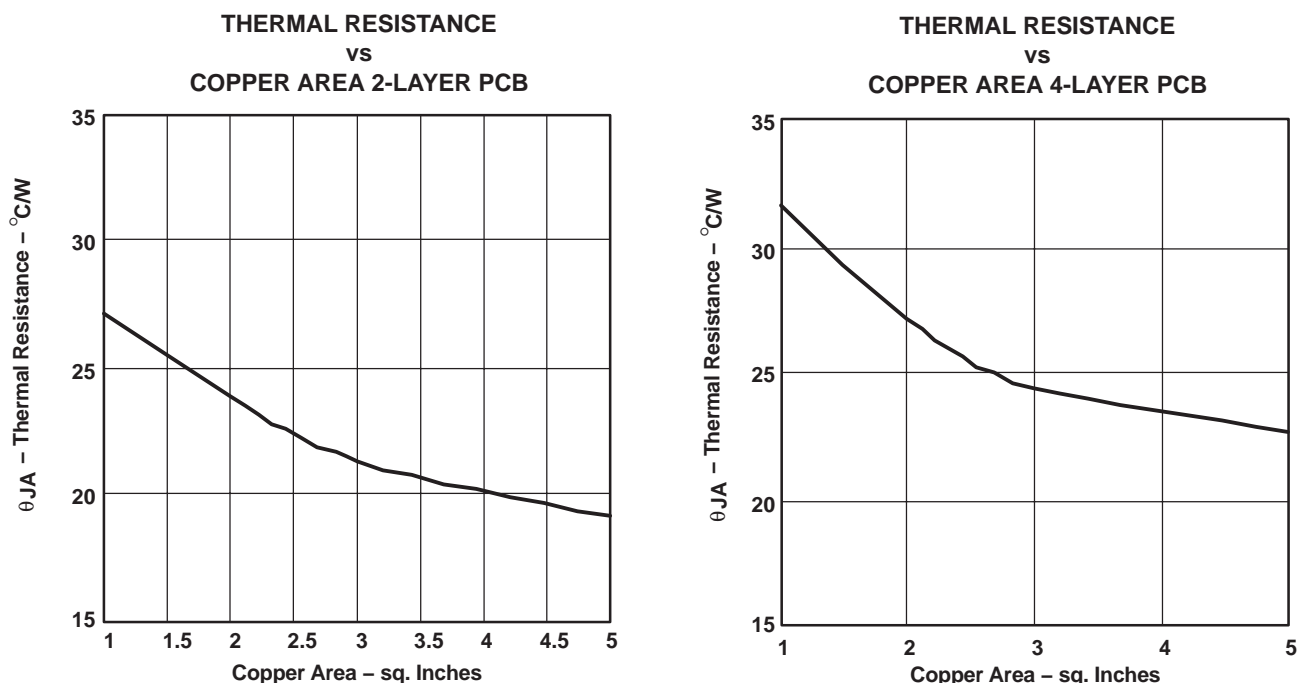
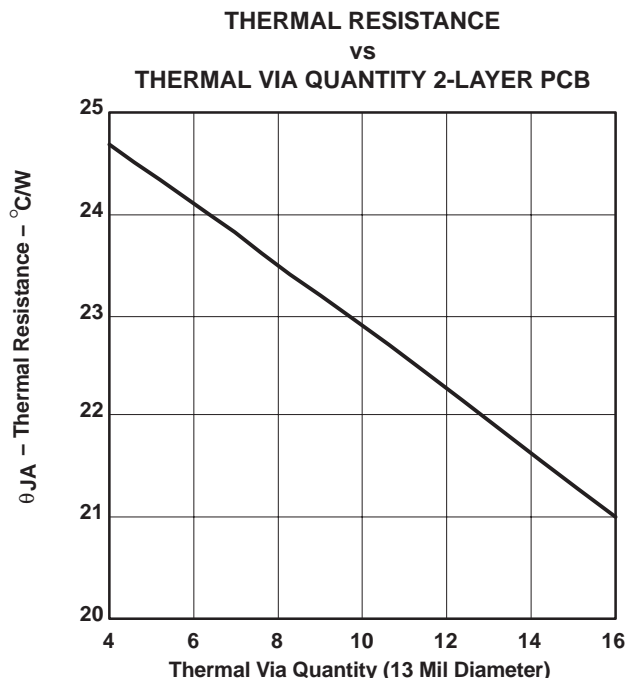

Figure 38. Thermal Resistance
Figure 39. Thermal Resistance
$$\Theta_{JA} = 19^{\circ}C/W \quad (2\text{-Layer PCB, 5 sq. in. copper, see Figure 38}) \quad (8)$$
Figure 38 and Figure 39 show the results of several thermal experiments conducted with the TPA3002D2. Both figures show that the best thermal performance can be achieved with more copper area for heat dissipation and an adequate number of thermal vias.
Figure 38 shows two curves for a 2-layer and 4-layer PCB. The 2-layer PCB layout was tightly controlled with a fixed amount of 2 oz. copper on the bottom layer of the PCB. The amount of copper is shown on the x-axis. Nine thermal vias of 13 mil (0,33 mm) diameter were drilled under the PowerPad and connected to the bottom layer. The top layer only consisted of traces for signal routing.
Figure 39 shows the effect of the number of thermal vias drilled under the PowerPAD on the thermal performance of the PCB. The experiment was conducted with a 2-layer PCB and 3 square inches of copper on the bottom layer. For the best thermal performance, at least 16 vias in a 4x4 pattern should be used under the PowerPAD. Refer to the TPA3002D2 EVM User's Manual (SLOU151), for an example layout with a 4x4 via pattern. PCB gerber files are available at request.